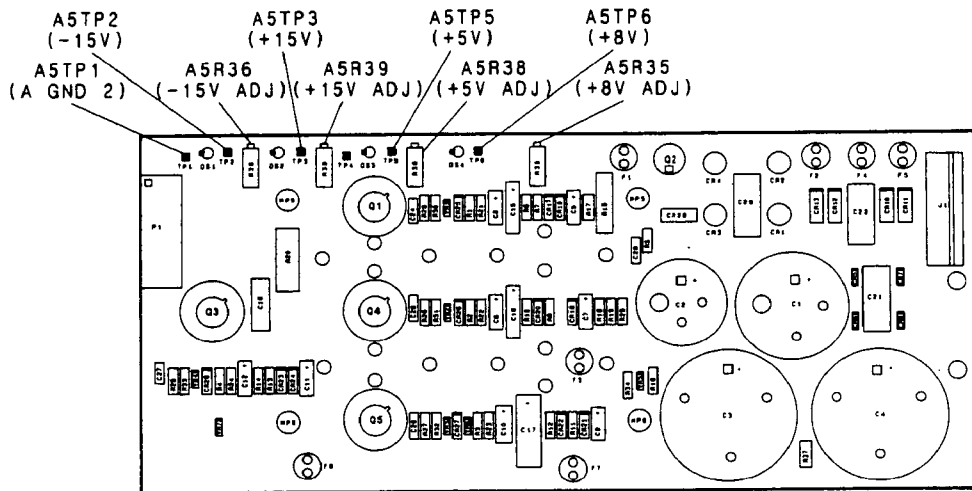

Figure 5-2. Power Supply Assembly Adjustment Locations
4. With the DVM in DC coupled mode, connect the DVM LO terminal to A5TP1 (A GND 2) and the HI terminal to A5TP5 (+5V). Refer to Figure 5-2 for A5 power supply assembly adjustment locations.
- Adjust A5R38 (see Figure 5-2) for a DVM reading of $+5.000 \pm .001$ Vdc.